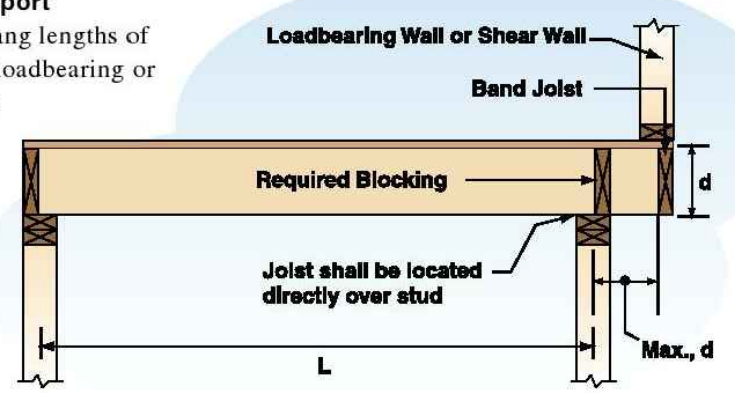

Figure 8. Cantilever with Loadbearing Wall or Shear Wall
- Cantilevered Floor Joists that Support Loadbearing or Shear Wall.** Overhang lengths of cantilevered floor joists supporting a loadbearing or shear wall at the end of the cantilever shall be limited to the depth, d, of the joists (See Figure 8).